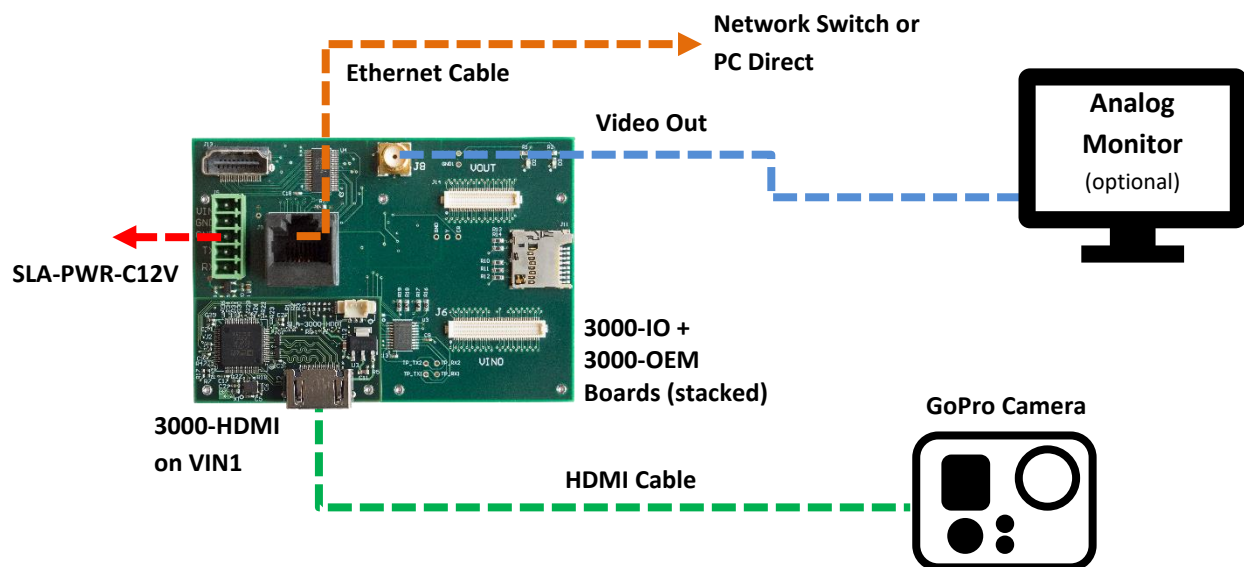

Figure 3: 3000-OEM HDMI Camera Bench Setup
4. Connect the Ethernet, serial, and power cables to the 3000-IO board. Power to the camera in Figure 3 is provided by a standard USB connector.